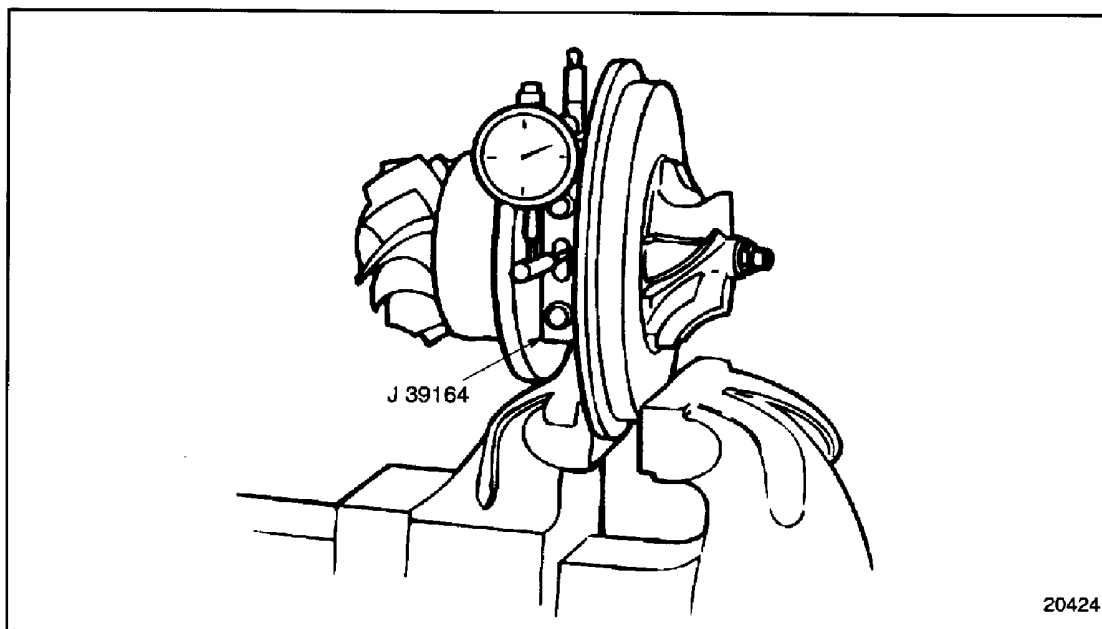

Figure 6-21 **Checking Shaft Radial Movement**
- [a] Install the turbo shaft checker, J 39164, to the oil drain opening of the center section. The special curved end of the tool must contact the wheel shaft through the oil outlet port and an internal opening in the center casting. See Figure 6-21.
- [b] Install a dial indicator. See Figure 6-21.